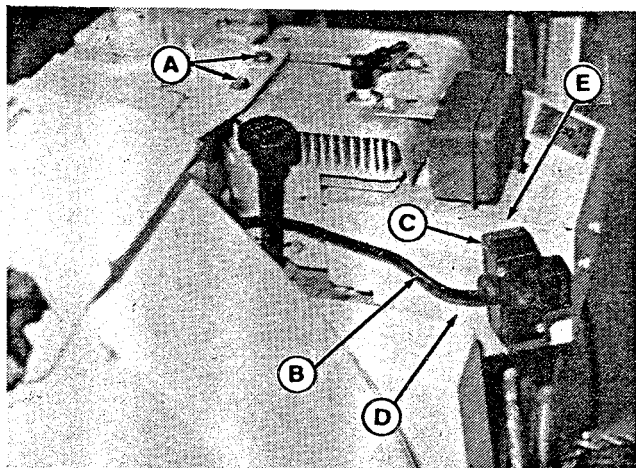

Figure 1
18. Install the cleaning instruction decal (Q, figure 1) to the inside surface so it is readable from operator's position. Align the bottom of the decal with the bottom of the front panel on left-hand side as shown.